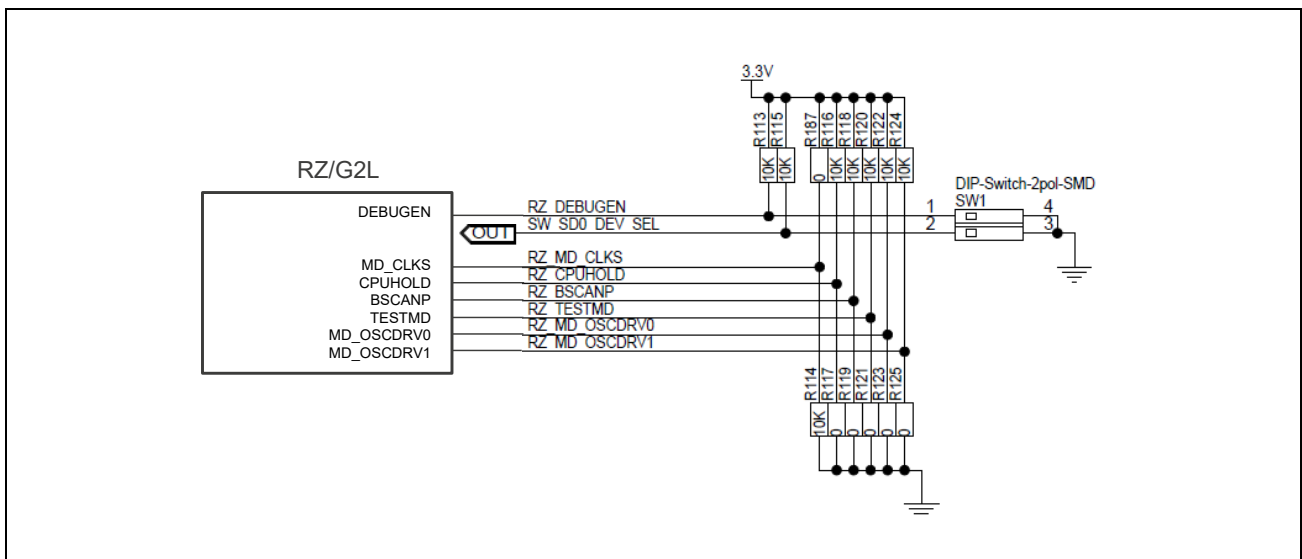

Figure 3.7 Block Diagram of System Setting I/F
**Table 3.4** lists mounted switches. **Figure 3.7** shows a block diagram of the System Setting interface.